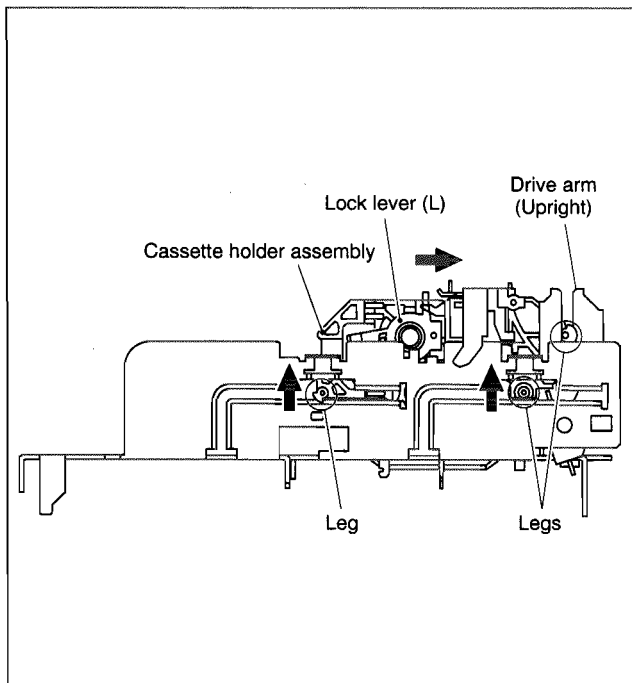

Fig. 2-2-4
- (4) While swinging the lock levers (R) and (L) of the cassette holder assembly toward the front, slide the cassette holder assembly until its legs come to where the guide rail and the roller cam assembly have been removed (so that the drive arm is upright). (See Fig.2-2-4.)